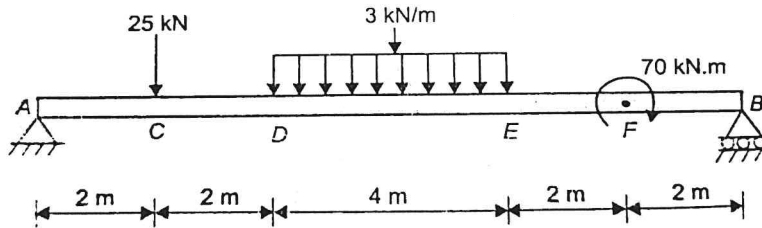

Figure Q.13 (a)
13. a) For the loaded beam shown in figure Q. 13 (a). Determine the deflection at point C. Take  $E = 2 \times 10^5 \text{ N/mm}^2$  and  $I = 5 \times 10^8 \text{ N/mm}^4$ .